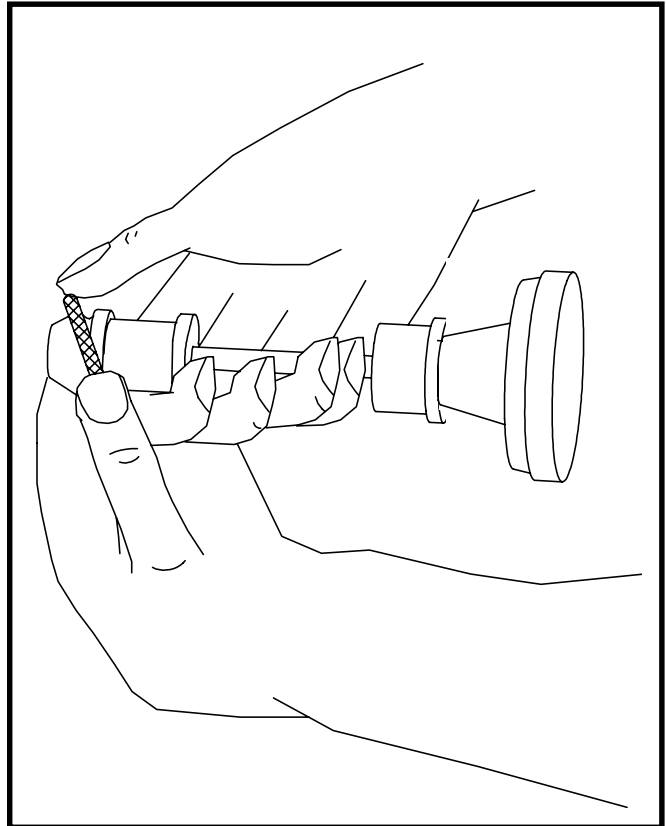
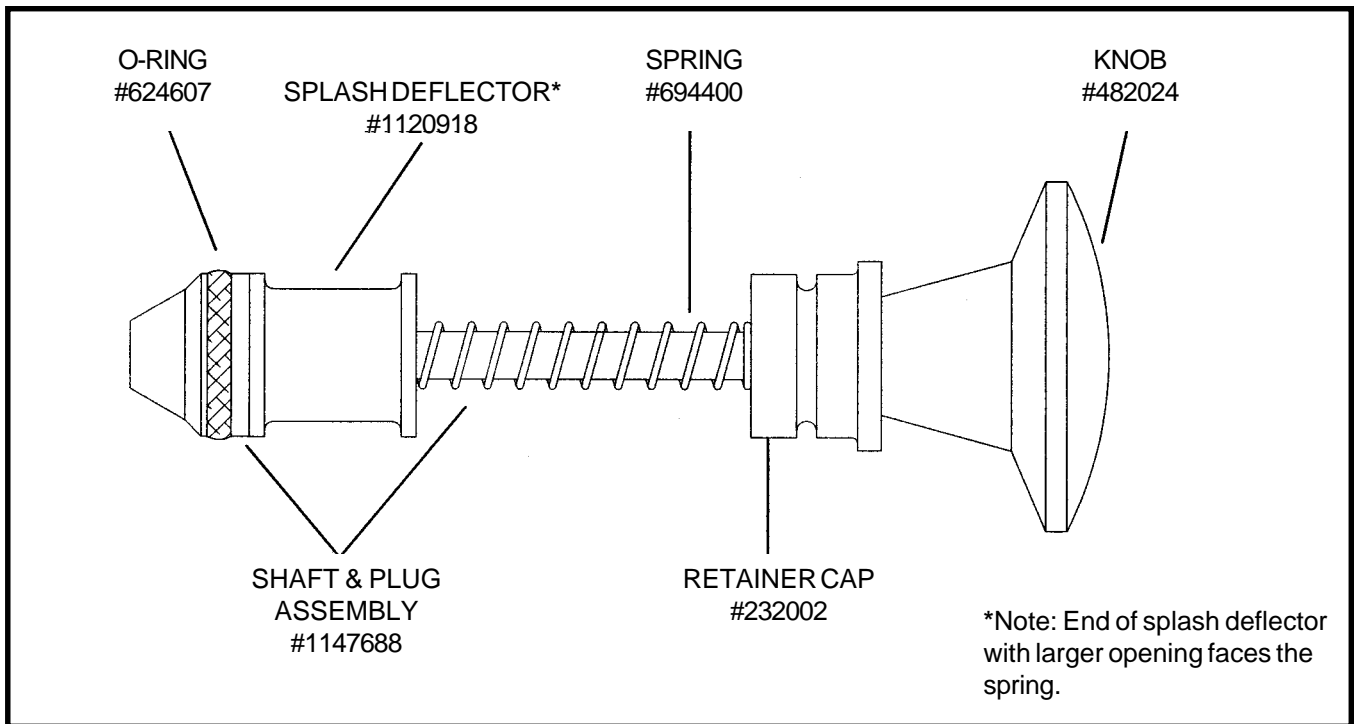

Figure 16
Figure 17
1. With a clean, dry towel, wipe excess lubricant from the spigot assembly and o-ring. Firmly grasp the spigot assembly with both hands and squeeze the o-ring upward (Fig 16). When a loop is formed, roll the o-ring out of the groove toward the end of the spigot assembly. (See Fig. 17 for a cutaway view of the spigot assembly.)